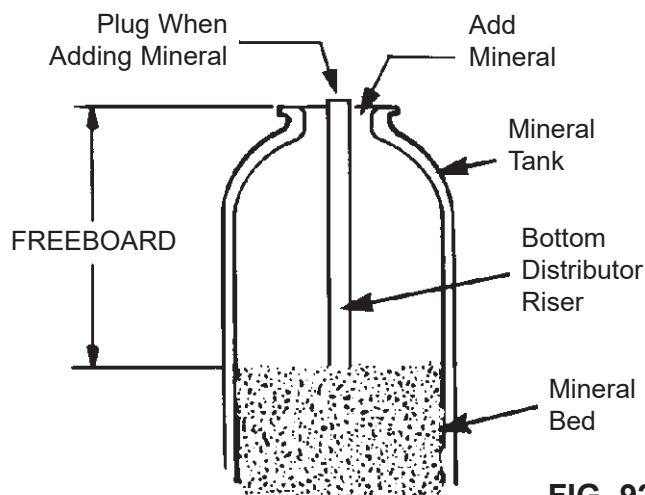

FIG. 92
8. Use a yard stick or steel tape measure to find the distance down to the top of the mineral bed (See Figure 92). If it is lower than the suggested freeboard, shown in the table below, add more neutralite material.